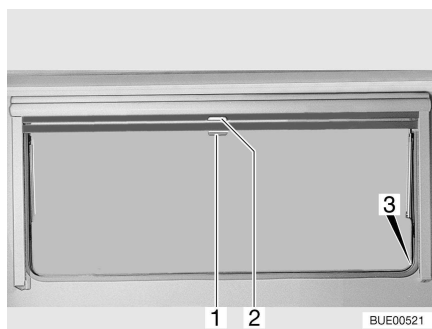

Fig. 26 Hinged window
Closing: ■ Pull blind at the handle (Fig. 26,2) downwards. If the blind is to be completely closed, it is suspended into the locking devices (Fig. 26,3) situated on both sides of the window frame.
Opening: ■ If the blind is completely closed: Press handle (Fig. 26,2) downwards and, at the same time, tilt it slightly inward. The blind can be taken out of the locking devices situated on both sides of the window frame.
■ If the blind is in an intermediate position: Pull the handle (Fig. 26,2) slightly downwards until the locking device releases.
Closing: ■ Pull insect screen at the handle (Fig. 26,1) down and hang it into the locking devices (Fig. 26,3) situated on both sides of the window frame.
Opening: ■ Press handle (Fig. 26,1) downwards and, at the same time, tilt it slightly inward. The insect screen can be taken out of the locking devices situated on both sides of the window frame.